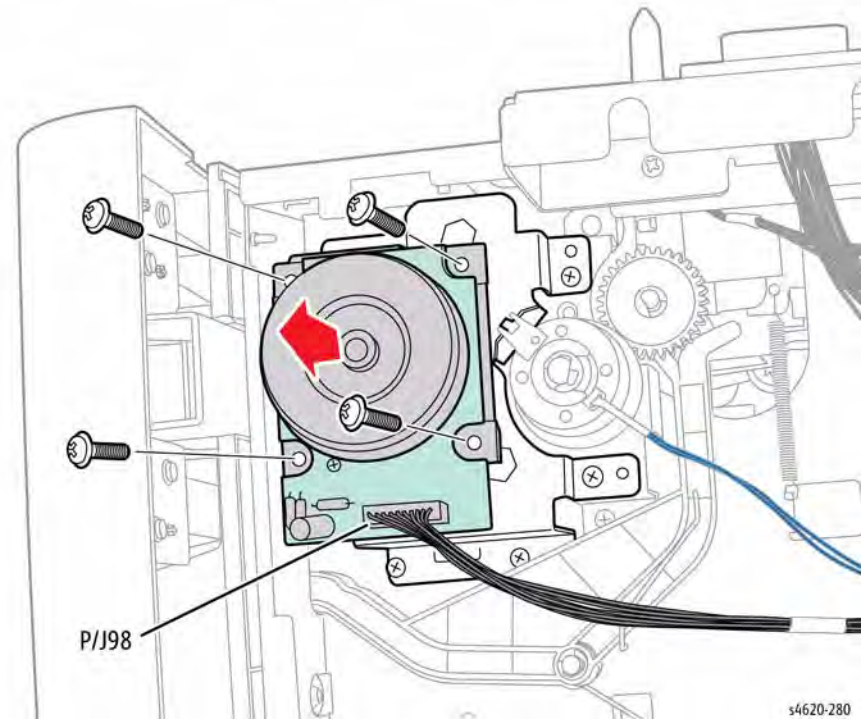

Figure 1 Remove the Feed Motor
3. Disconnect CN1 from the feed motor and remove 4 screws (metal) that secure the motor to the drive assembly, Figure 1.